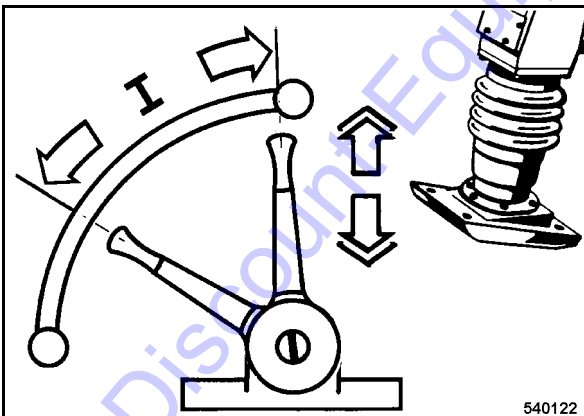

Fig. 17
- To achieve uniform running you should actuate the throttle lever within range "I" (Fig. 17), depending on condition and density of soil.